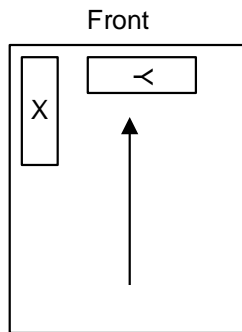

Figure 2
- By convention, the positive end of the X axis points north and the positive end of the Y-axis points east. See Figure 2.